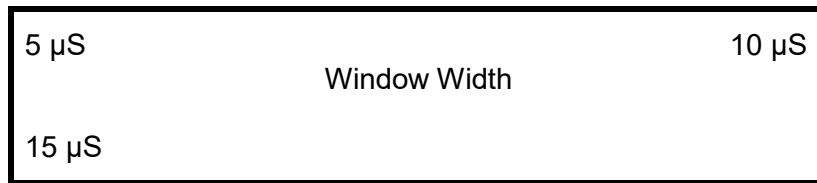

Figure 3-9: Window Width
2.a. The "Window Width" menu. These parameters control the Window width as seen on the graphics display. See Figure 3-9 and Table 3-1.